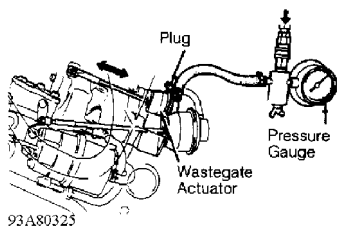

Fig. 6: Testing Wastegate Actuator (RX7)
1) Ensure engine is cool. Remove hose connected to actuator. Connect air pressure source to pressure gauge. See Fig. 6. Apply air pressure to actuator.